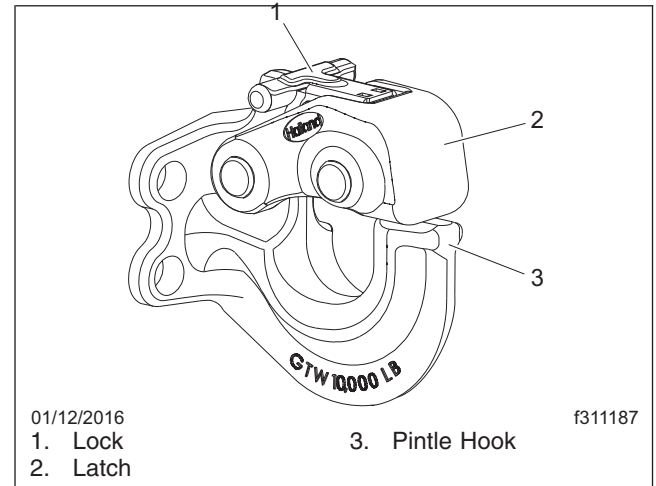
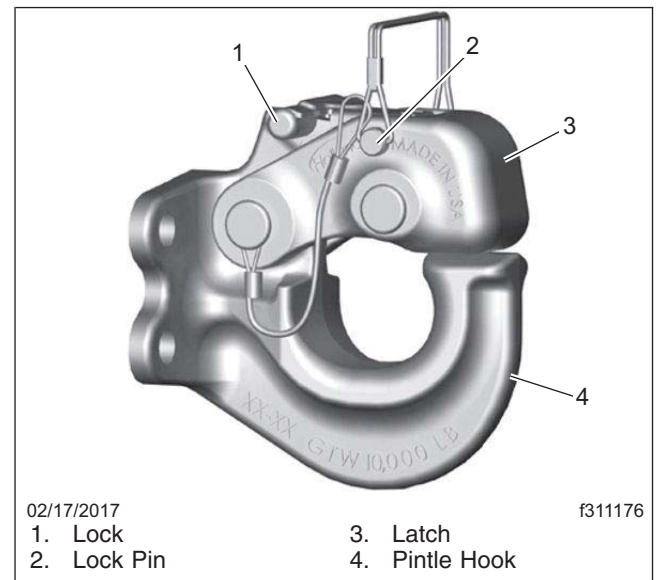

Fig. 17.31, Holland Trailer Coupling with FastLatch
Fig. 17.32, Holland Trailer Coupling with Lock Pin
The Holland trailer coupling is designed for use with trailers having a maximum gross weight of 30,000 lb. (13,610 kg) for Holland PH-30RP41 and PH-30RP51. It is a rigid-type pintle hook, used only on tractor applications, and is fastened to the rear closing crossmember of the vehicle. It is a non-air-adjusted coupling. See Fig. 17.31 and Fig. 17.32.
5. Raise the mating drawbar above the pintle hook. See Fig. 17.32, item 4.